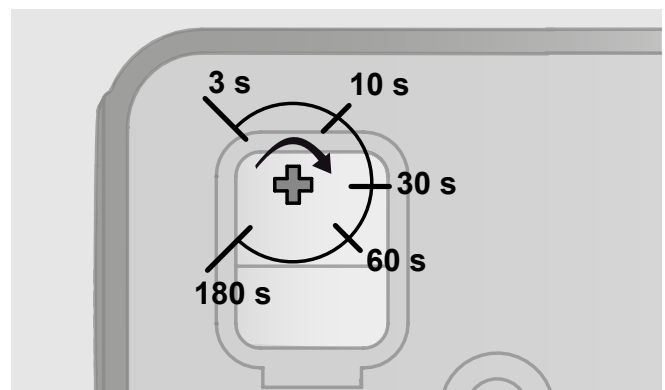
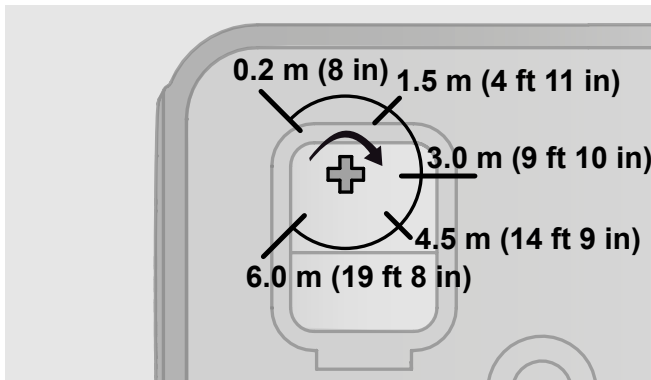

Figure 8: Configuring the TLS 500 P-type (in seconds)
Figure 9: Configuring the TLS 500 VR-type (in m and in)
3. Set the potentiometer to the correct value according to the application → Figure 8 (P-type) or Figure 9 (VR-type)